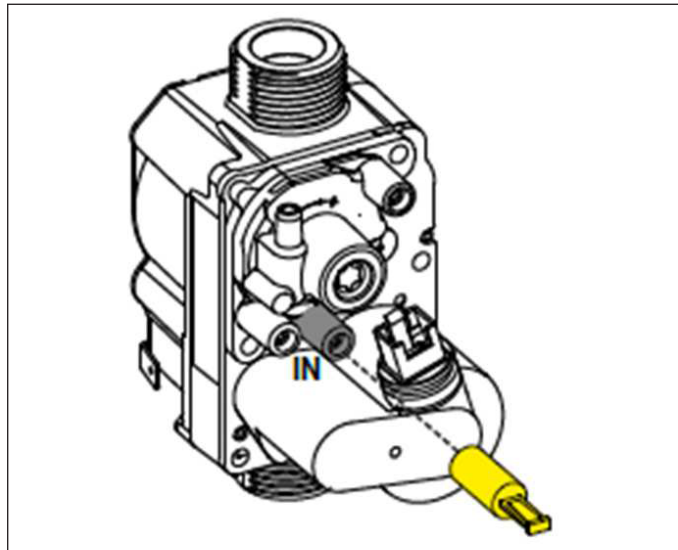

Figure 58 - Remove Yellow Cap
NOTE: Refer to Figures 58 and 59 when checking gas pressure. Loosen the bolts before checking the gas inlet pressure.
1. Remove yellow cap from line pressure test point. See Figure 58.